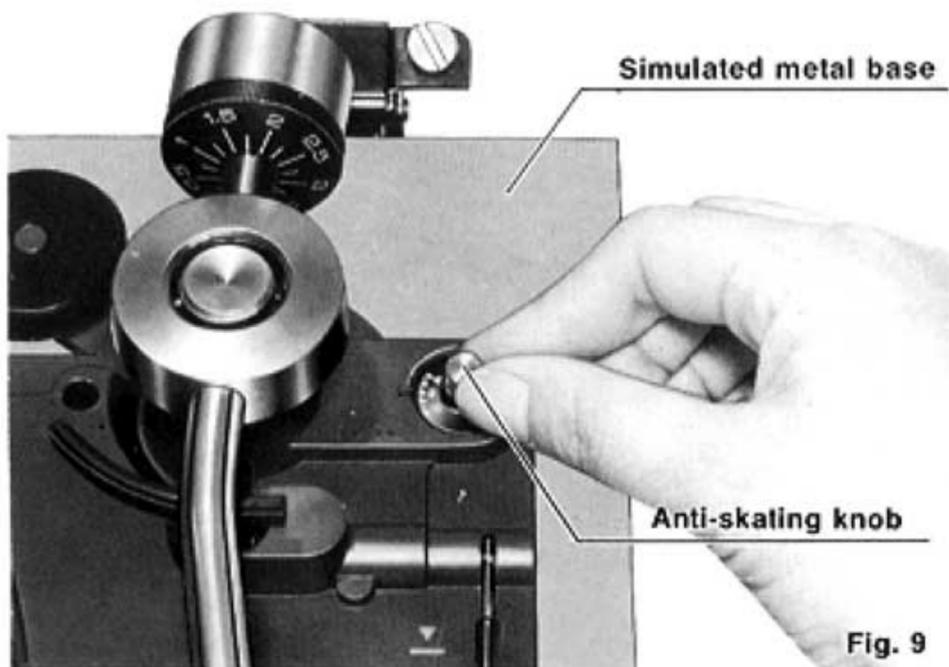

Fig. 9
*Turn the anti-skating knob to the same value as the stylus pressure ring. (See Fig. 9)